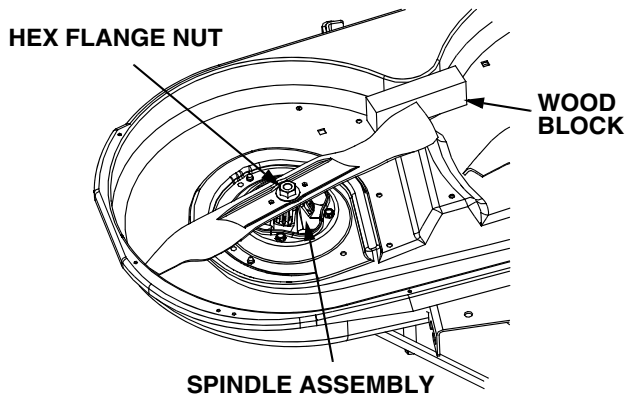

Figure 37
- Use a 15/16 inch wrench to hold the hex nut on top of the spindle assembly when loosening the hex nut securing the blade. A block of wood may be placed between the deck housing and the cutting edge of the blade to help in breaking loose the hex nut securing the blade. See Figure 37.